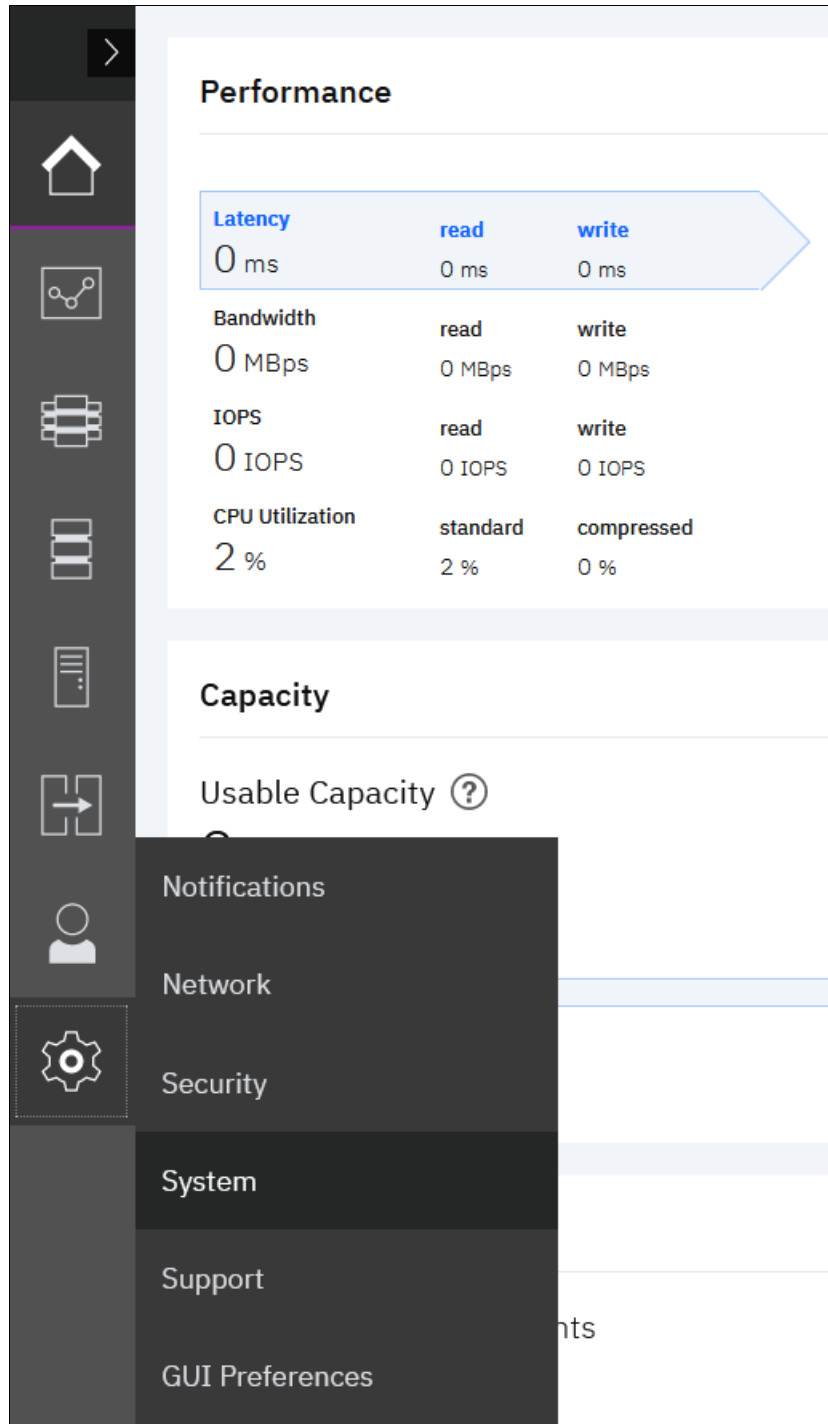

Figure 13-15 Settings menu
1. Log in by using superuser credentials. The management home window opens. Hover the cursor over **Settings** and click **System** (see Figure 13-15).